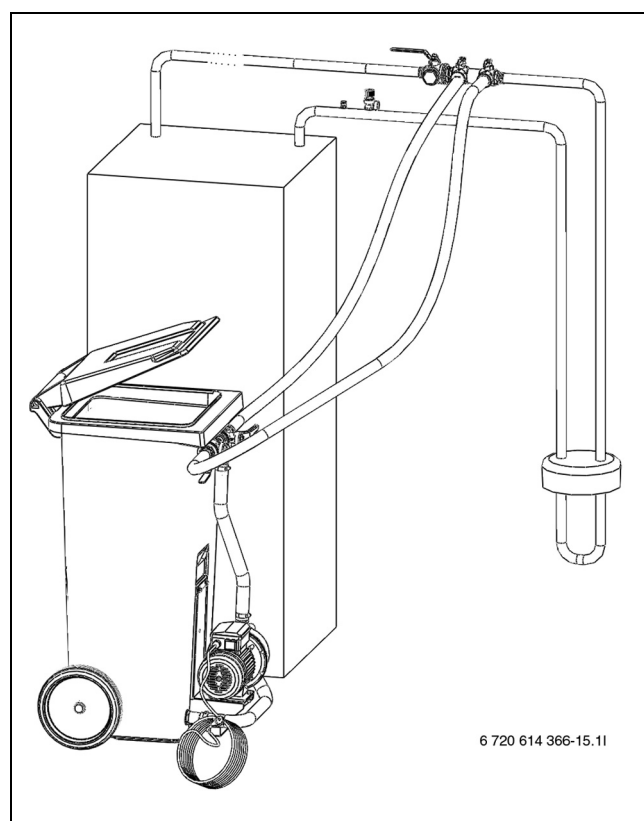

Fig. 35 Filling with filling station
- ▶ Connect two hoses from the filling station to the filling unit (→ Figure 35).